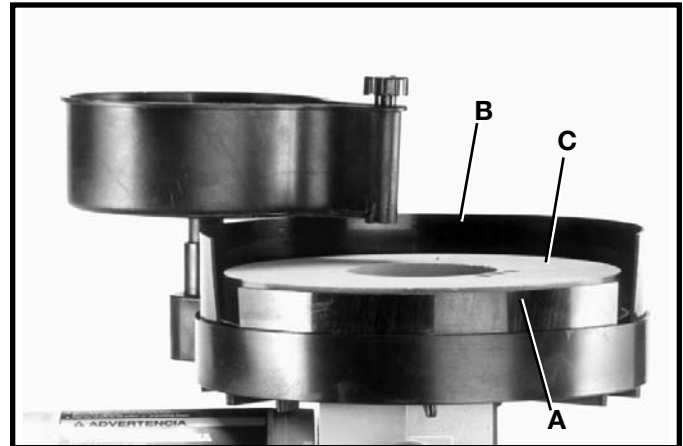

Fig. 31
Two adjustable splash guards (A) and (B) Fig. 31, are provided with your sharpening center. The height of the front splash guard (A) should be adjusted so the top edge of the guard (A) is slightly below the grinding surface (C) of the wheel. The rear splash guard should be positioned high, as shown. To adjust the splash guards, move the guards manually.